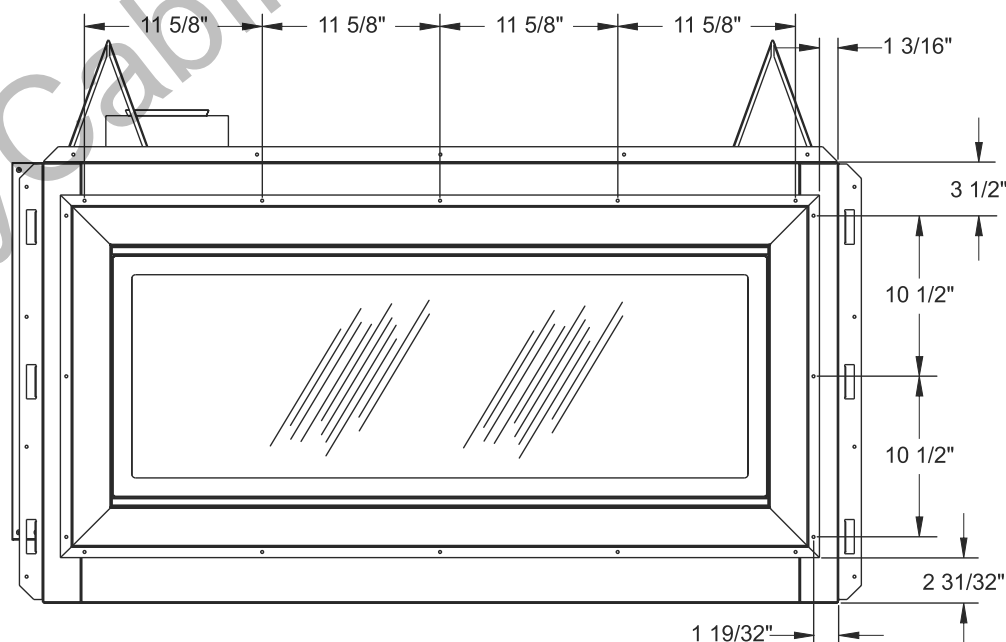

Figure 35 - Installing Exterior Door for See-Thru In/Out Application
1. Center and level exterior door on rear face of the see-thru fireplace. Exact dimensions for the location of the door are shown in Figure 35.